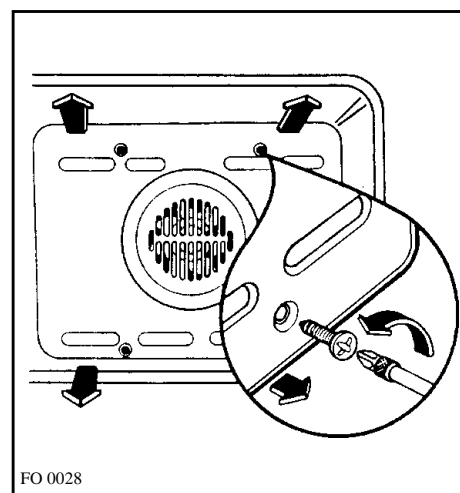

Fig. 10
3. Make sure that the electricity supply to the appliance is disconnect/ Then using a suitable Philips screwdriver, unscrew the four fixing screws on the back panel (Fig. 10). This is a good opportunity to clean the rear side of the back panel.